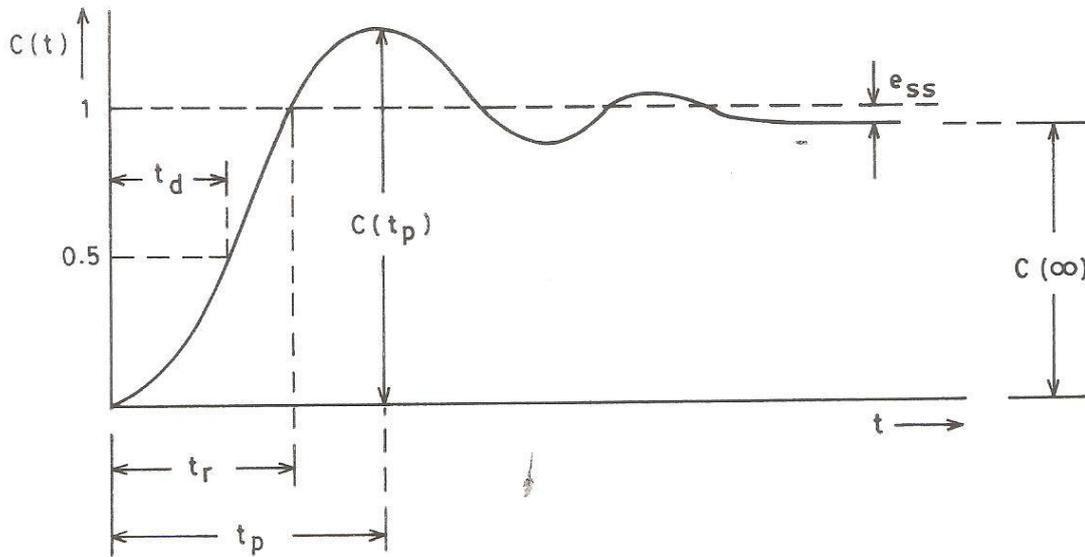

FIG. 4 NORMALIZED STEP RESPONSE OF THE SECOND ORDER SYSTEM
This gives unit step response similar to equations (1), (2) or (3) depending upon the value of K_A . Thus the response of the position control system can be altered by varying the amplifier gain K_A , and a 'satisfactory' performance may usually be obtained. This leads to the concept of performance characteristics as defined on the step response of an underdamped second order system in Fig. 4 and explained in brief here.